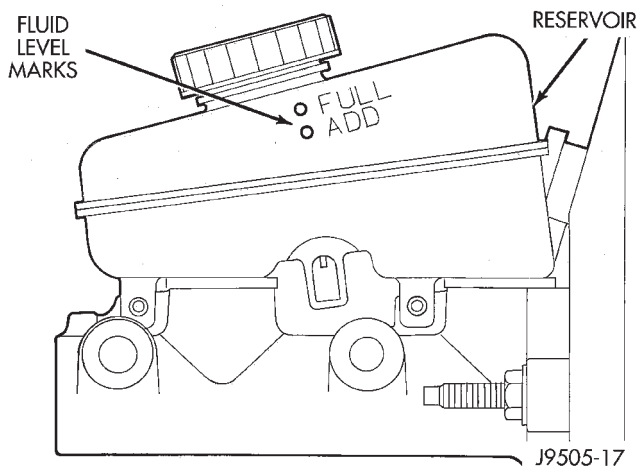

Fig. 8 Reservoir Fluid Level—YJ-XJ and Anti-Lock Brake System
The brake fluid level (Fig. 8) should be inspected when other underhood service is done. With discbrakes, the fluid level can be expected to fall as the brake pads wear. However, a low fluid level can also be caused by a leak, and repair will then be necessary. Refer to Group 5, Brakes for proper service procedures.
- (3) The brake fluid level should be no lower than the ADD indicator on the side of the reservoir (Fig. 8). If not, add brake fluid as necessary. Raise the fluid level to the FULL indicator only. Do not over-fill the reservoir.